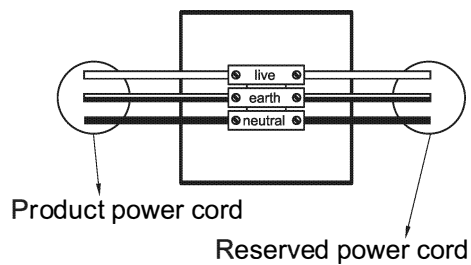

Fig.4
2.1 Disconnect power, connect the wire to the terminal block. See (Fig.4)